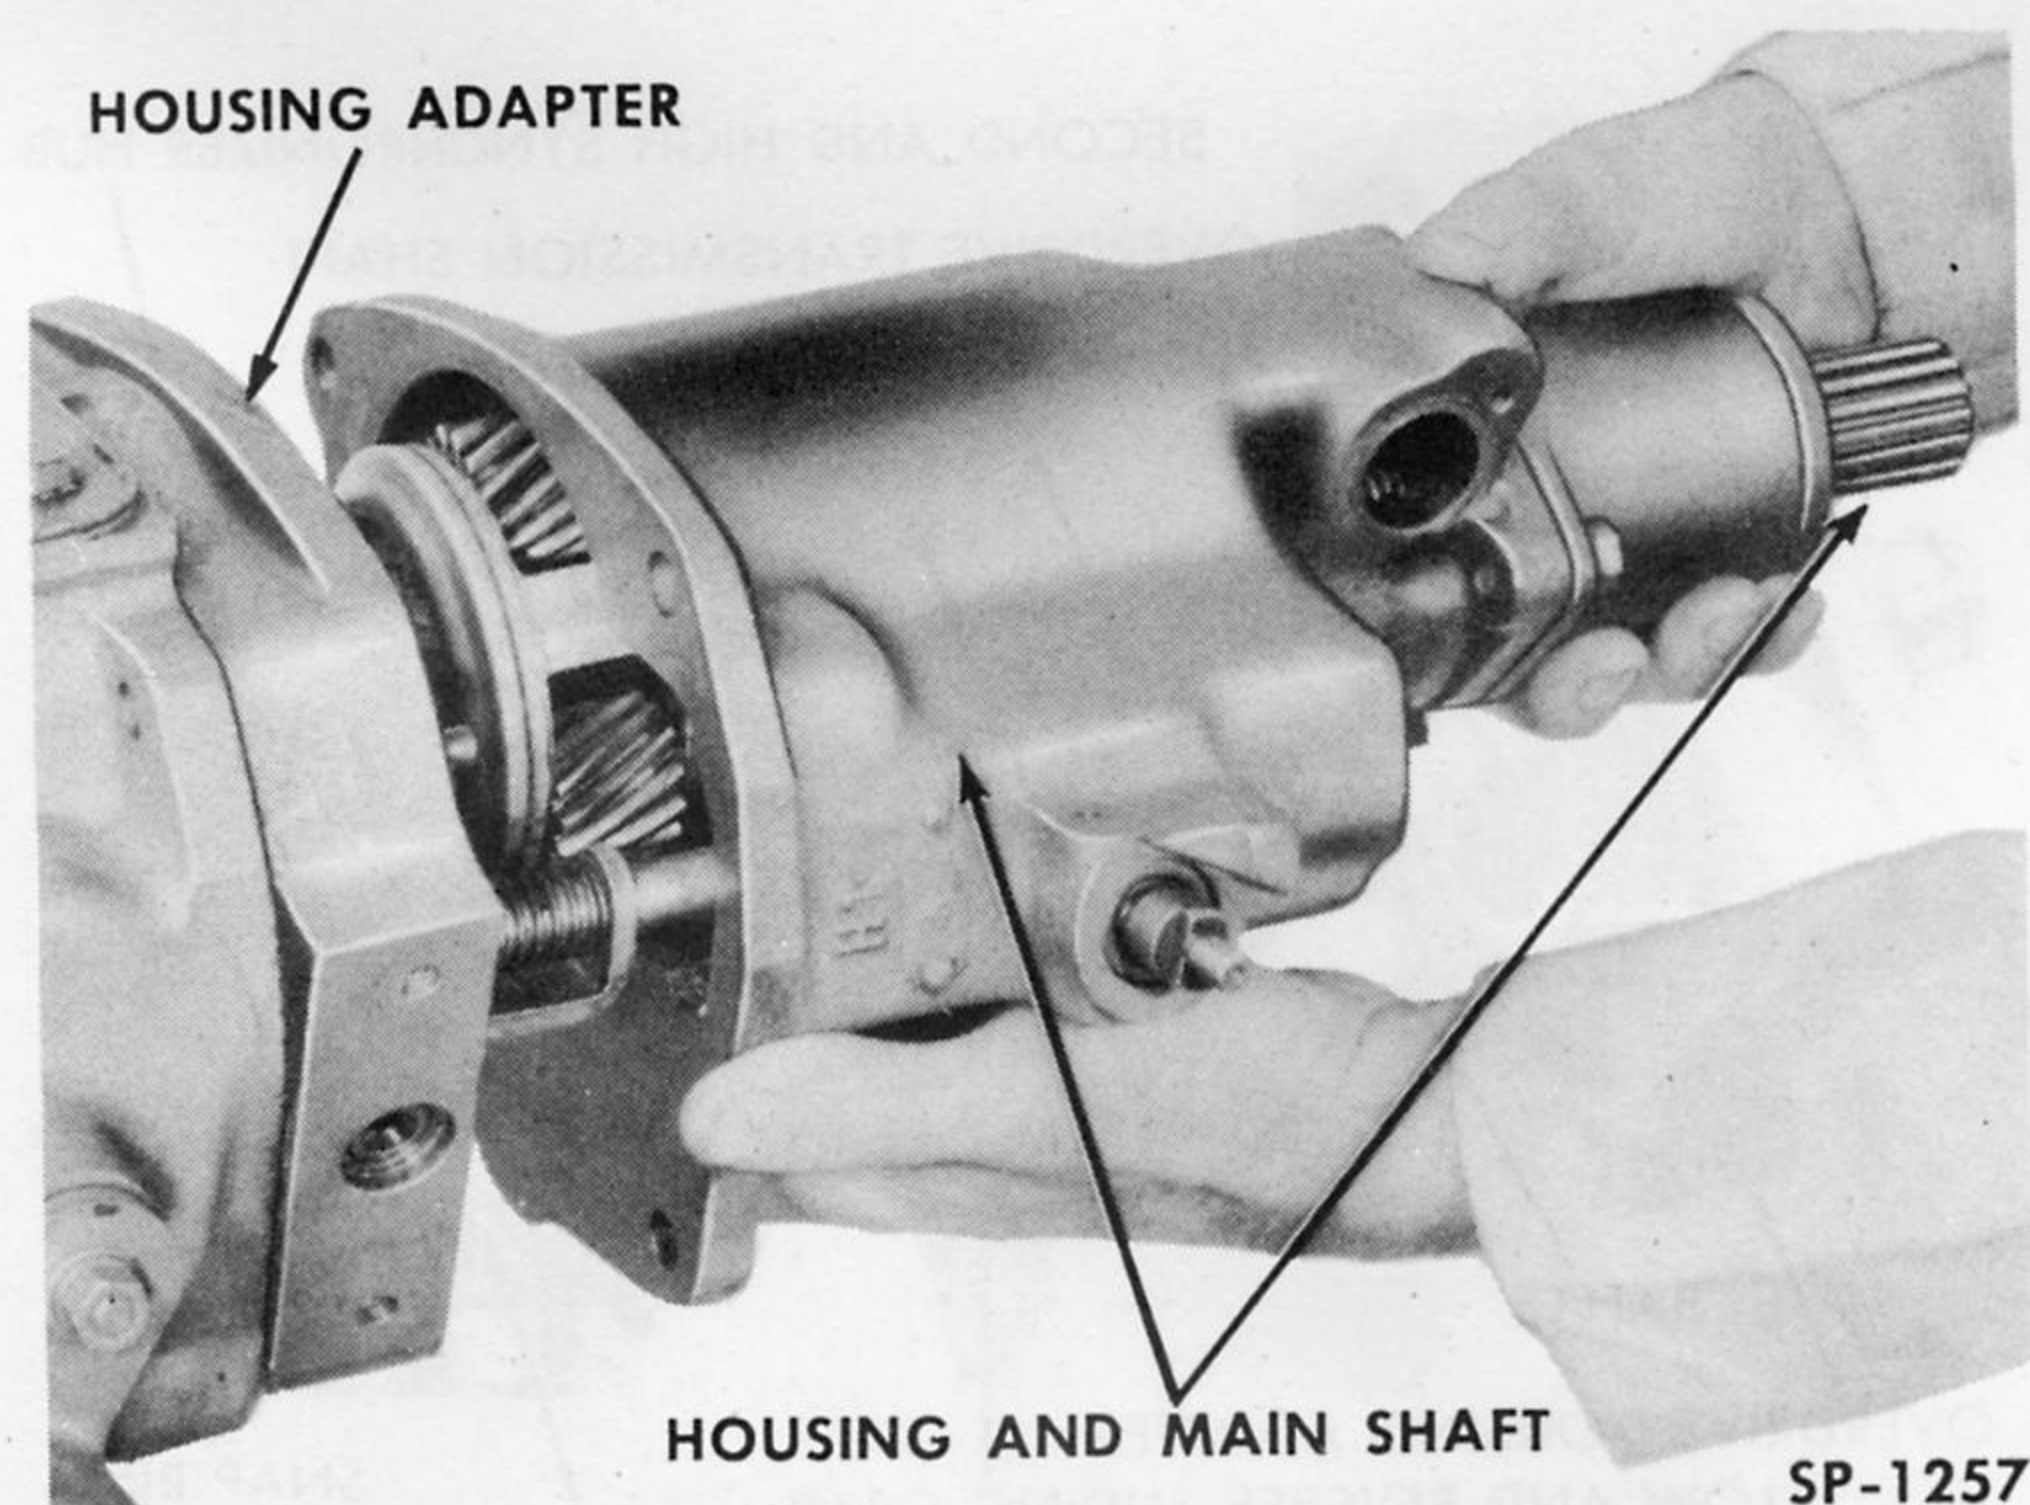

Fig. 214—Removing Overdrive Mainshaft Assembly And Housing—Kaiser
9. Remove the bolts and washers attaching the overdrive housing and adapter to the transmission case. The overdrive housing may now be removed. If working on a Kaiser, the mainshaft is removed with the housing (Fig. 214). If working on a Frazer,